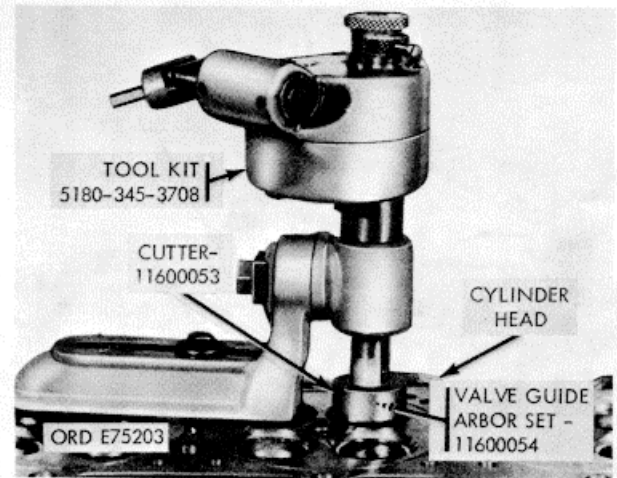

Figure 3-44. Valve seat insert counterbore.
(1) Recondition valve seat counterbore using tool kit, cutter, and valve guide (48, 51 and 41, fig. B-28) to proper size (A, fig. 3-36), as shown in figure 3-44.